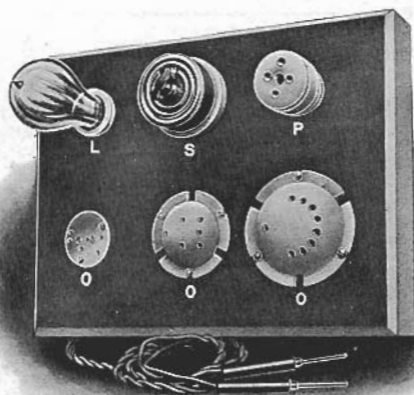

FIG. 5. TESTING BOARD
Fig. 5 on opposite page shows the testing board. It is provided with a testing lamp (L) for detecting open circuits, testing sockets (O) for holders, a snap switch (S) and an attachment plug (P) for connecting to the lighting circuit.